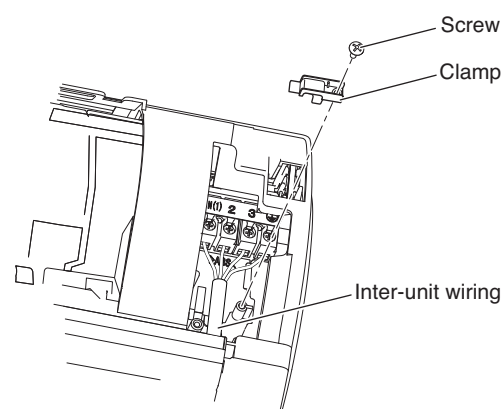

Fig. 18
- (6) Be sure to secure the wiring with the clamp. (Fig. 18)